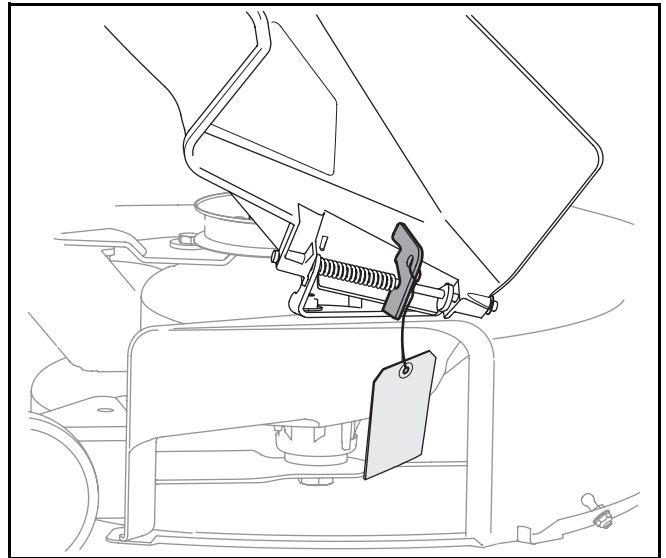

Figure 4
- Locate the shipping brace, if present, and warning tag found on the right side of the cutting deck. See Figure 4.